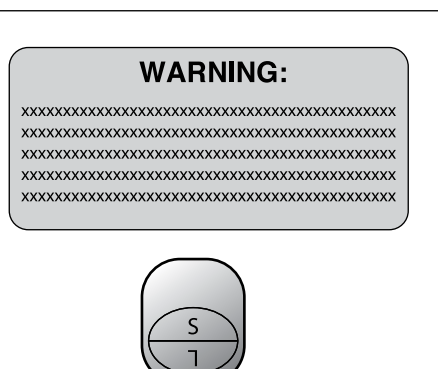

Figure 4
4. If you are using 5/8" staples set S up. (See Figure 4)